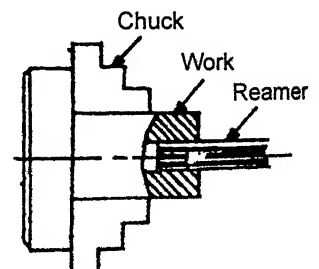

Fig. 10.20. Reaming.
**7. Reaming. Refer to Fig. 10.20.**